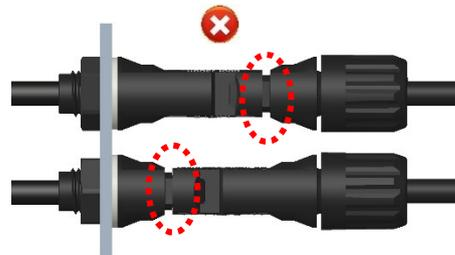

Figure 21
- ◇ 公母连接器插合：将公/母电缆连接器插入母/公面板连接器，直至其啮合。轻轻拉动，以检查是否啮合牢固（如图 19-20）。同时检查公母连接器有无对配不到位现象（如图 21）。
Insert the Male/ female cable connector into the female/ male panel connector until they engage. And pull lightly to check correct engagement (Fig. 19-20). At the same time, check whether the male and female connectors are in place or not (Figure 21).